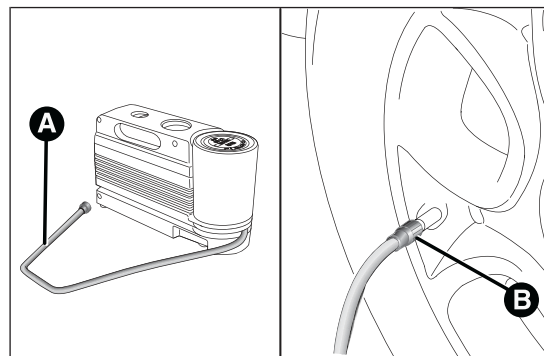

fig. 122
- ☐ **Pull up the handbrake.** Unscrew the tyre valve cap, take out the filler hose A fig. 122 and tighten the ring nut B on the tyre valve;